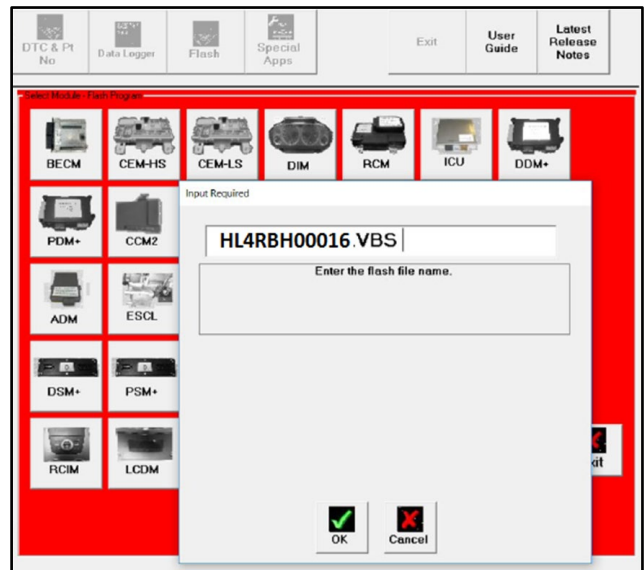

Figure 11
17. Type “HL4RBH00016.VBS” in the pop-up window (refer to Figure 11). Click “OK”. The software will update.